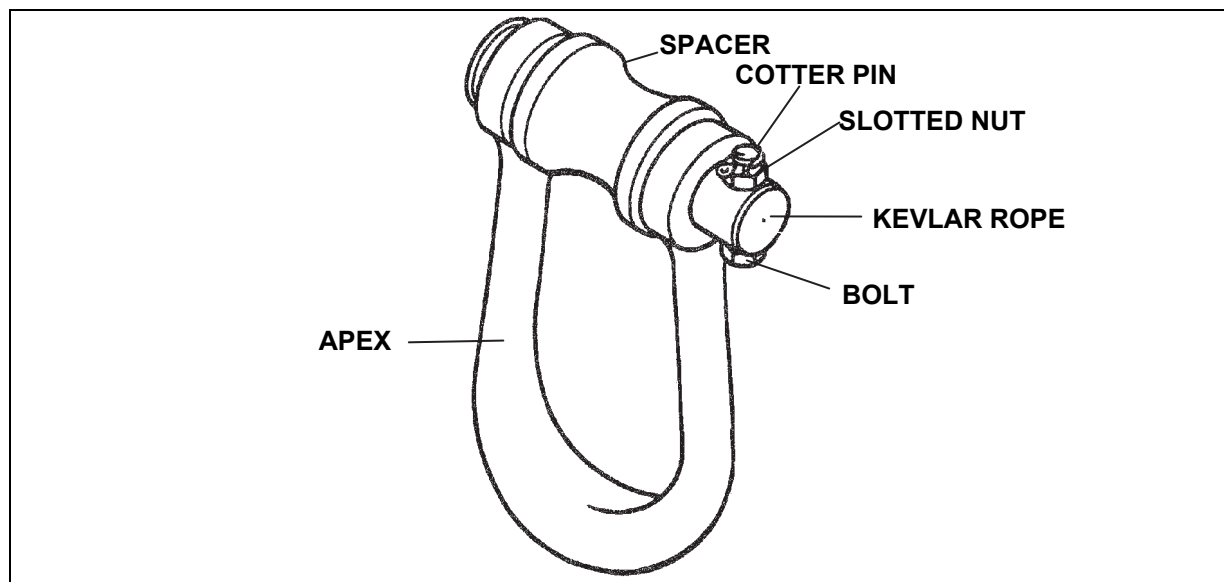

Figure 6-32. 40,000-Pound Capacity Apex Shackle Fitting
- **Apex Shackle Fitting.** The 40,000-pound capacity steel apex shackle fitting holds the sling leg assemblies and attaches directly to the helicopter cargo hook (figure 6-32). The apex fitting can be easily disassembled to allow for the removal or addition of sling legs as necessary. The spacer helps to center the apex fitting on the cargo hook.